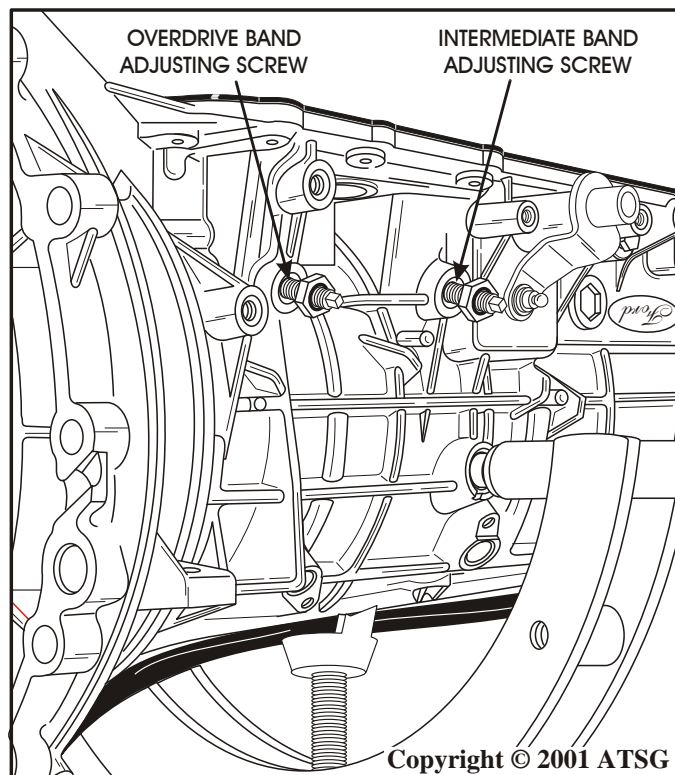

Figure 171
63. Install new locking nuts on both band adjusting screws, using care not to let the adjusting screw come out, so that the band anchors will not fall out and into transmission (See Figure 171).
64. Adjust the overdrive band by turning adjusting screw in while holding the lock nut. Torque the adjusting screw to 14 Nm (10 ft.lb.) and then back out **exactly** two (2) full turns. Refer to Figure 171.
65. Adjust intermediate band by turning adjusting screw in while holding the lock nut. Torque the adjusting screw to 14 Nm (10 ft.lb.) and then back out **exactly** two (2) full turns. Refer to Figure 171.